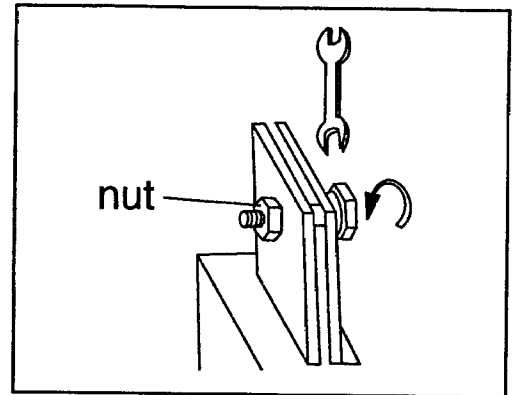

Figure 3
3. Loosen nut with an adjustable wrench (figure 3).